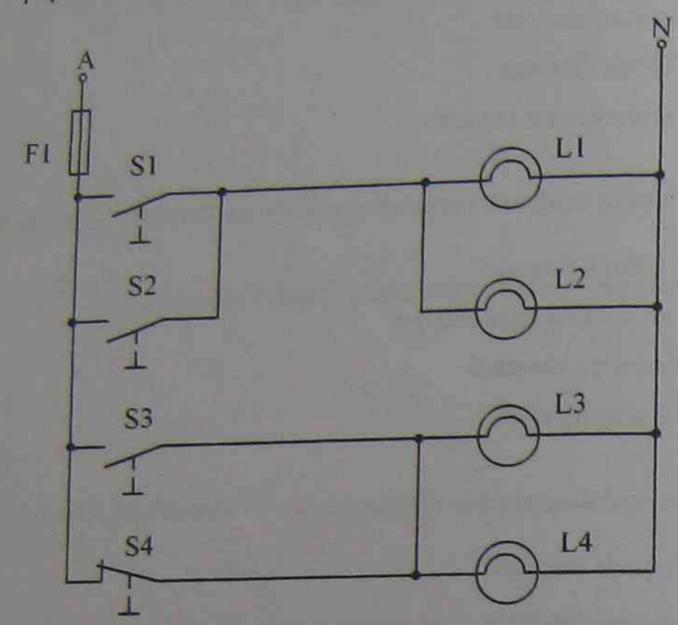

Figure 19 Circuit diagram - lighting control
12. The circuit shown in Figure 19 represents the switching circuit for the control of four lighting points. Using the equipment layout in Figure 20, develop and draw the wiring diagram for this circuit.